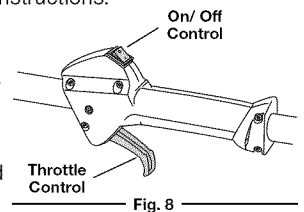

Fig. 8
**NOTE:** There is no need to turn the unit on. The On/Off Control is in the ON (I) position at all times (Fig. 8).
2. Press and hold the On/Off Control switch in the **OFF (O)** position until the unit comes to a complete stop (Fig. 8).
- NOTE:** There is no need to turn the unit on. The On/Off Control is in the ON (I) position at all times (Fig. 8).
5. Crouch in the starting position (Fig. 8). Do not squeeze the throttle. Place the Plug-In Power Start or Power Bit Start into the back of the unit. Refer to the Operation section of the Plug-In Power Start or Power Bit Start operator's manual.
6. Press and hold the ON (I) button of the Plug-in Power Start or Power Bit Start equipped drill in intervals no longer than 4 seconds each until the unit starts.
7. Wait and allow the unit to idle for 5 - 10 seconds. If the unit stops running during this time, squeeze the throttle control, then press and hold the ON (I) button of the Plug-in Power Start or Power Bit Start equipped drill in intervals no longer than 4 seconds each until the unit starts.
**IF...** The engine fails to start after a few attempts, squeeze the throttle control, then press and hold the Plug-In Power Start or drill ON (I) button in intervals no longer than 4 seconds each until the unit starts.
2. Press and hold the On/Off Control switch in the OFF (O) position until the unit comes to a complete stop (Fig. 8).